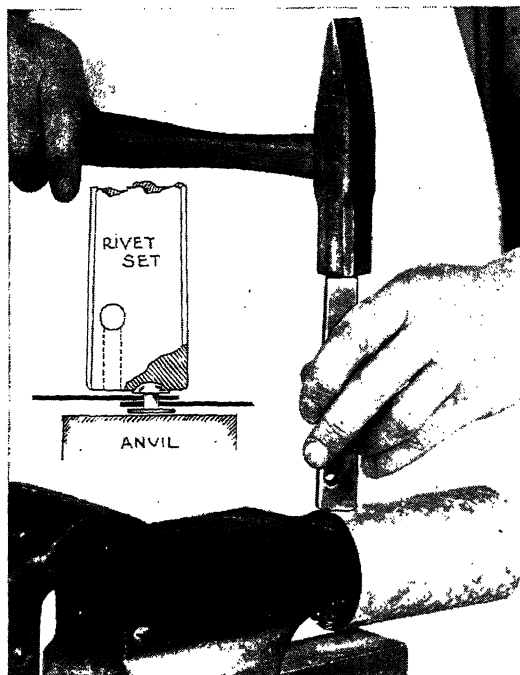

Fig. 88. Shaping a head with a rivet set
*Second:* Round the flattened rivet head by placing the cup-shaped depression of the rivet set over it, and again strike with a hammer. Again, use only several hammer blows for heading. The set is used for rounding the head in a manner to that shown in Figure 88.